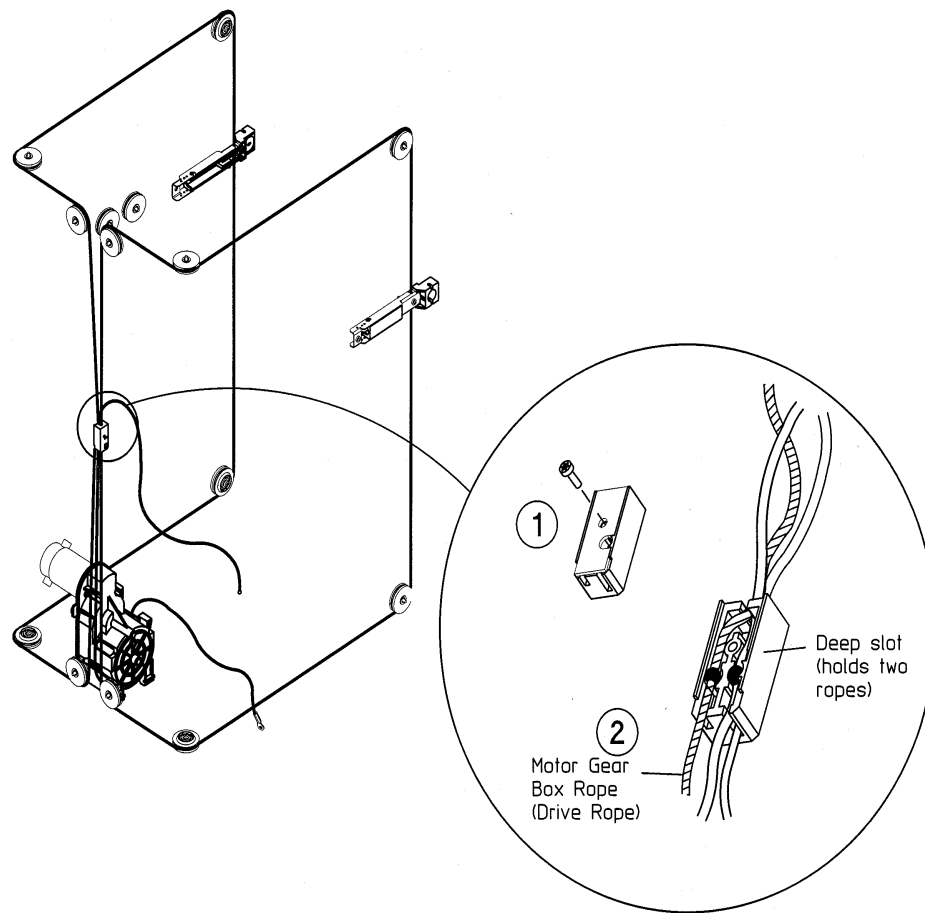

Figure 76: Disconnecting the Rope Coupler
6. Remove the drive cable from the top pulleys (#3 on Figure 76).
7. Remove the T-15 screw from the rope coupler cover (see #1 on Figure 76).
8. Remove the front and center ropes from the rope coupler (#2 and #3 on Figure 76).